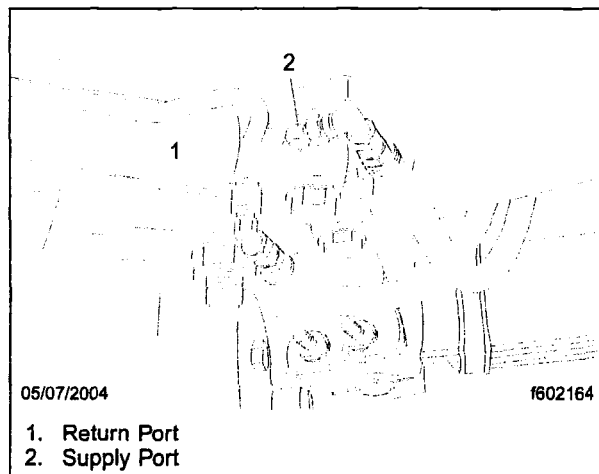

Fig. 3, Install a Flow Restrictor on the Supply and Return Ports
4. Remove the hydraulic hose and elbow adaptor fitting from the supply and return ports on the tilt cylinder. The supply port is located 90 degrees from the fluid tube and the return port is adjacent to the fluid tube on the tilt cylinder. See Fig. 3.
5. Apply thread sealant compound to the threads of the flow restrictors (from kit 25-FL427-000), then install them on both the supply and return ports on the tilt cylinder. See Fig. 3.
4. Place a drain pan under the bottom of the tilt cylinder. Remove the hydraulic hose and elbow adaptor fitting from the supply and return ports on the tilt cylinder. The supply port is located 90 degrees from the fluid tube and the return port is adjacent to the fluid tube on the tilt cylinder. See Fig. 3.